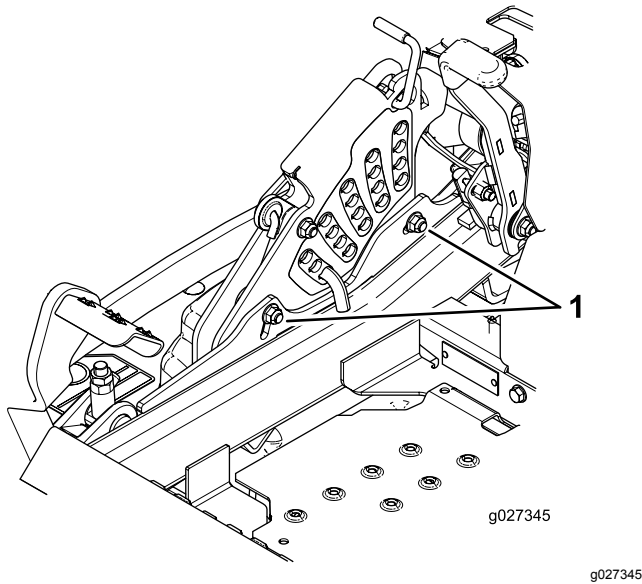

Figure 94
11. To adjust the single-point system, loosen the 2 bolts at the bottom of the height-of-cut plate (Figure 94).
13. Tighten the 2 bolts at the bottom of the height-of-cut plate (Figure 94).